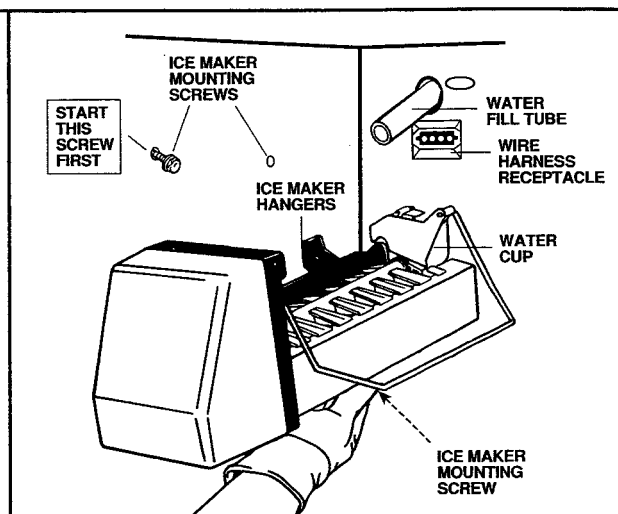

Figure 15
e. Hold the ice maker in position inside the freezer compartment. Insert the wire harness plug into the receptacle on the rear wall, using a rocking motion, until the locking fingers on sides of plug snap into place. Plug fits only one way. See Figure 15.
g. Install the two (2) remaining 5/8-inch silver-colored ice maker mounting screws and tighten all three screws.